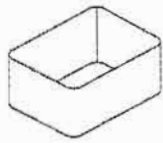
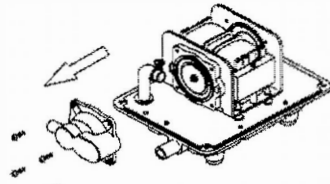

Fig.3
Fig.4
③Remove the sound absorber and the L-shaped tube from the casing nozzle gripping spring clamp(refer to fig.3). Loosen the 4 screws on the casing and remove the casing block(refer to fig.4).